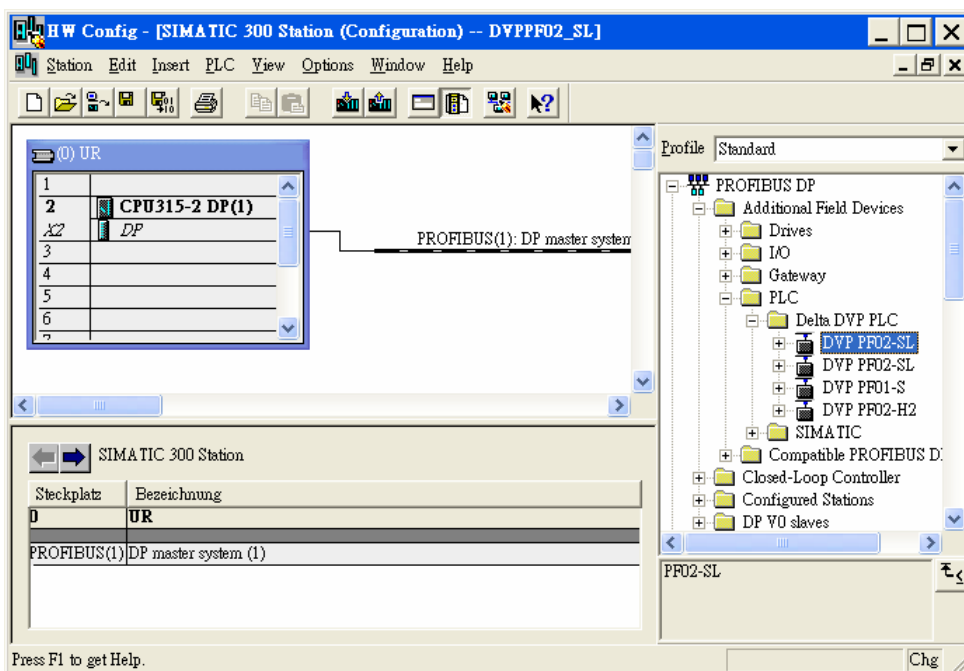

Figure 10-20
1. Select the PROFIBUS DP bus and double click the DVPPF02-SL in the right-hand side, as Figure 10-20, to open a dialog box.